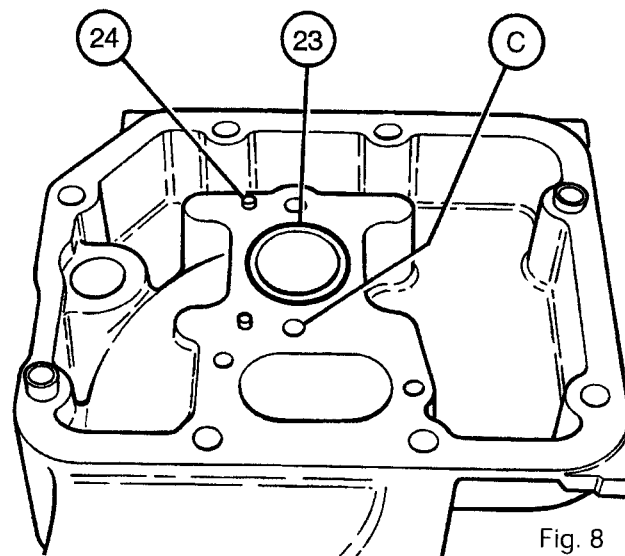

Fig. 8
**Note : The gear (12) can be dismantled without removing the pump. Recover the key (13).**
20. Check that the two locating pins (24) are in place (Fig. 8).
21. Apply a bead C of Loctite 574 or equivalent around the two bolts holes inside the cover (Fig. 8). The diameter of this bead must be small so that it does not reach the groove for seal (23). Fit a new seal.
23. Fit the bolts (22) smeared with Loctite 241 or equivalent and tighten them to a torque of 40 to 50 Nm.